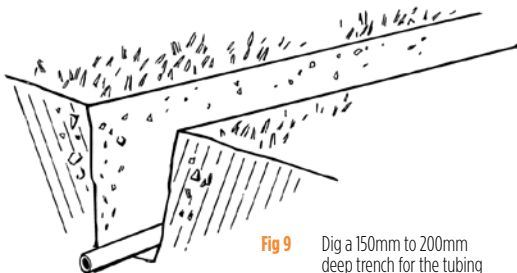

Fig 9 Dig a 150mm to 200mm deep trench for the tubing
- From your sketch plan of the lawn area, determine the position of the main poly tubing line (use 19mm tubing for pop-ups) and dig a 150mm to 200mm trench to house the tubing (Fig 9).